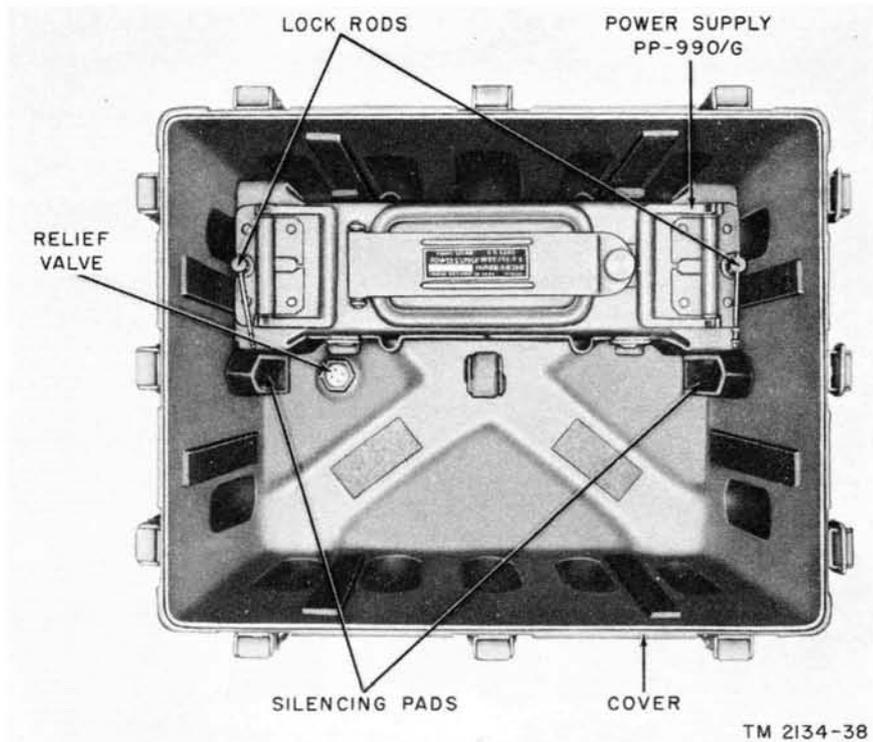

Figure 5. Cover, interior view.
*b. Interior* (fig. 5). The interior of the cover is equipped with rubber silencing pads to prevent the power pack and the keyshelf section from shifting or rattling when packed for storage or transport. Lock rods on each side of the interior secure the power pack in position as illustrated in figure 5.
- (3) Open the legs by swinging them outward until they lock into position.
- (4) Inspect the legs, cam lever, and retaining plate for damage that may have been incurred during shipment.
f. Remove the power pack from the inside of the cover (fig. 5) by following the steps outlined in subparagraphs (1) and (2) below.
- (1) Unscrew the lock rods until they are free from the lock nuts of the cover. Use the sliding bar handle, mounted on each locking rod, as a lever to turn the rod.
- (2) Lift the power pack out of the cover by grasping the handles mounted on top of the power pack.